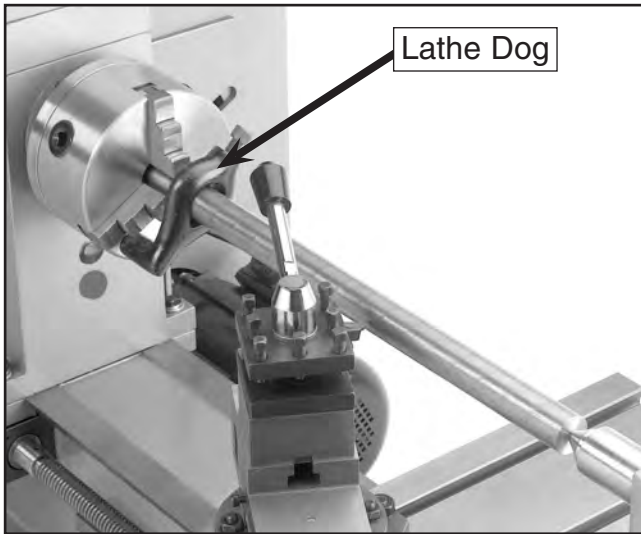

Figure 22. Bar stock mounted between centers with lathe dog.
4. Attach a lathe dog to the bar stock and mount it between the centers (**Figure 22**).